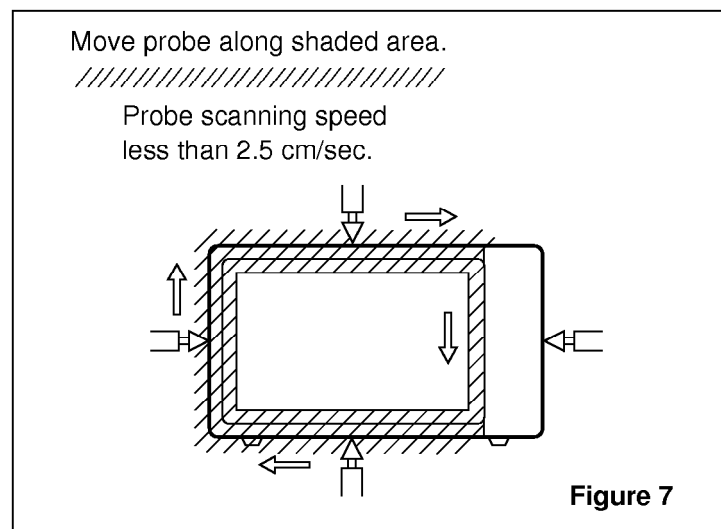

Figure 7
- (1) Pour 275 ±15cc of 20 ±5 °C water in a beaker which is graduated to 600 cc, and place the beaker in the center of the oven.
- (2) Set the energy leakage monitor to 2,450 MHz and use it following the manufacturer's recommended test procedure to assure correct result.
- (3) When measuring the leakage, always use the 2 inch (5 cm) spacer supplied with the probe.
- (4) Operate the oven at its maximum output.
- (5) Measure the microwave radiation using and electromagnetic radiation monitor by holding the probe perpendicular to the surface being measured. (See Figure 7)